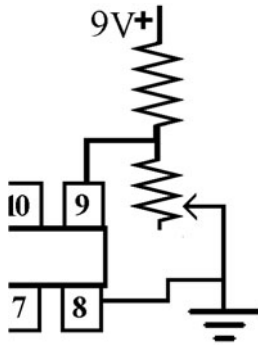

Figure L39-8
- Modify your breadboard slightly to represent the changes shown in Figure L39-8. This allows you to adjust the voltage using a voltage divider. If the voltage is kept stable at the input to pin 9, what happens to the output at pin 4? _____